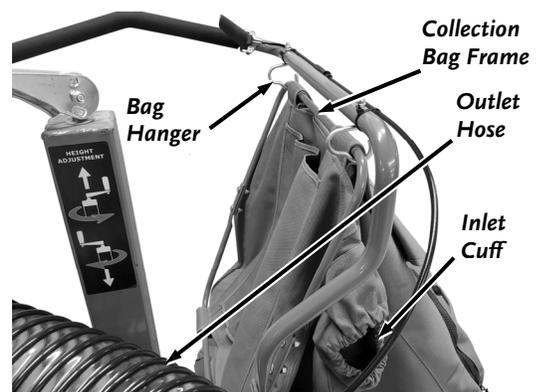

Figure 7
6. Orient the Collection Bag so that the Inlet Cuff is facing towards the Outlet hose, install the Collection Bag Frame to the Bag Hangers on the Left side of the Handlebar (**Figure 7**).